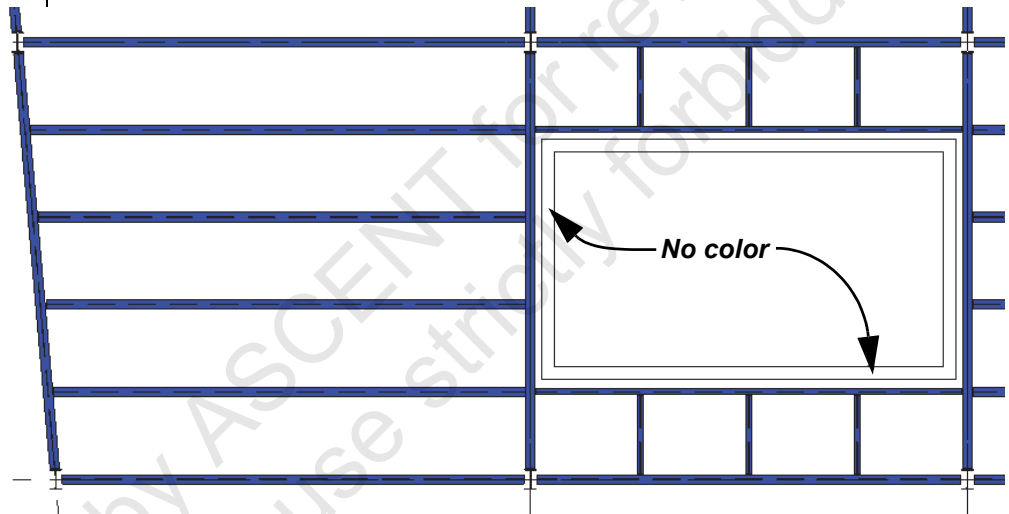

Figure 1–158
6. Click **OK** twice to close the dialog boxes. The Steel color now displays, but the floor has been removed, but the masonry concrete walls do not display as expected, as shown in Figure 1–158.